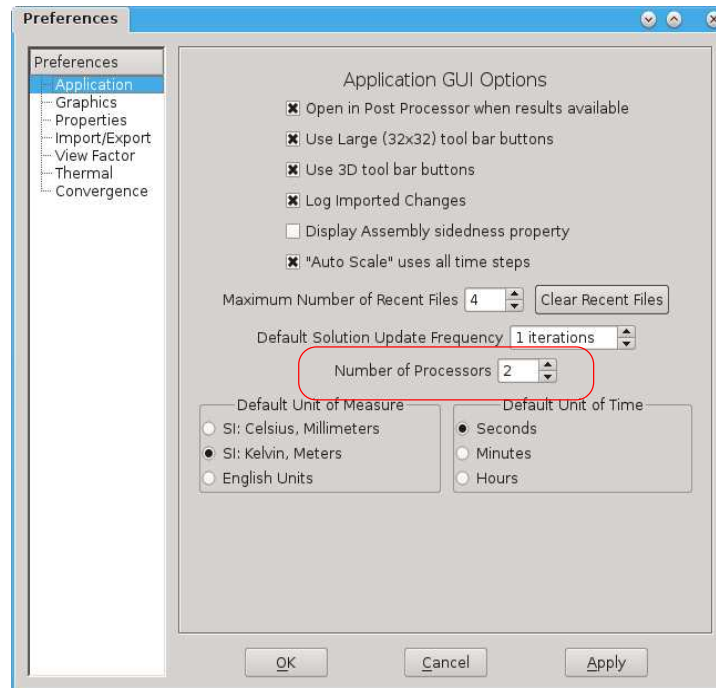

Figure 7: Number of processors setting in TAItherm GUI v11.0.
- **Edit**→**Preferences**→**Application** for older release than TAItherm 11.2 Figure 7